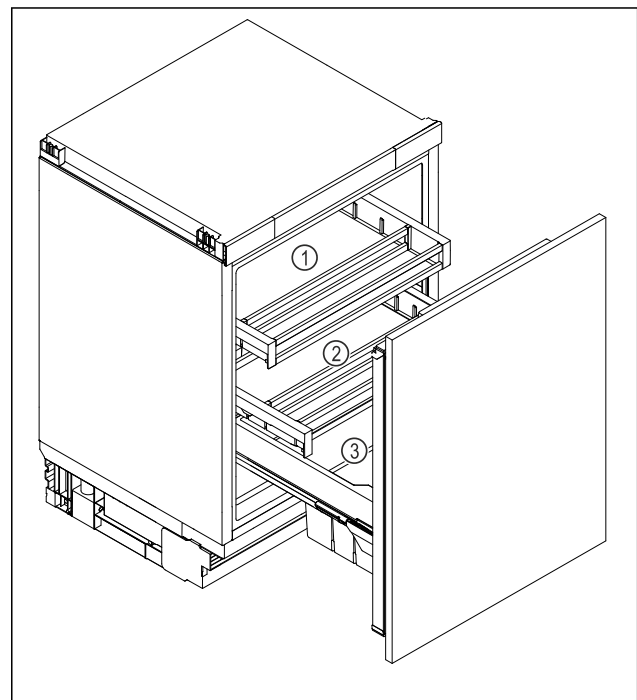

Fig. 6
- ▶ Top drawer Fig. 6 (1): Store butter, cheese, canned food, and tubes.
- ▶ Bottom drawer Fig. 6 (2): Store perishable food, such as pre-cooked meals, fish, fresh meat and lunch meat.
- ▶ Fruit and vegetable box Fig. 6 (3): Store packaged fruit and vegetables.
- ▶ Beverage drawer Fig. 6 (3): Store individual bottles.